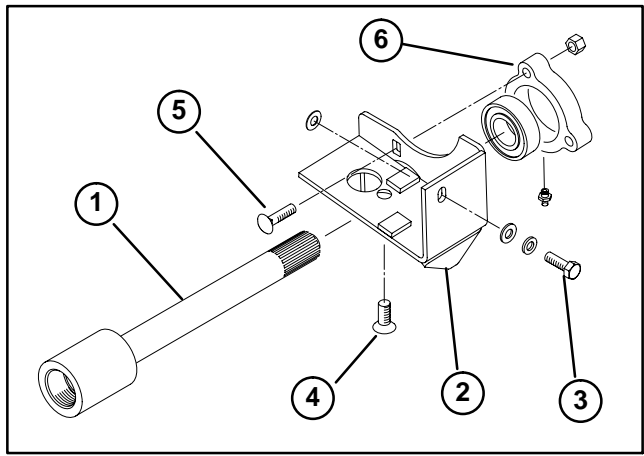

Figure 8
B. Slide traction shaft through bearing bracket, aligning the (2) bearing bracket mounting holes with the holes in side and bottom of hydrostatic (Fig. 8).
C. Mount side of bracket to hydrostat with a capscrew, lockwasher, flat washer and 1 or 2 shims (Fig. 8).